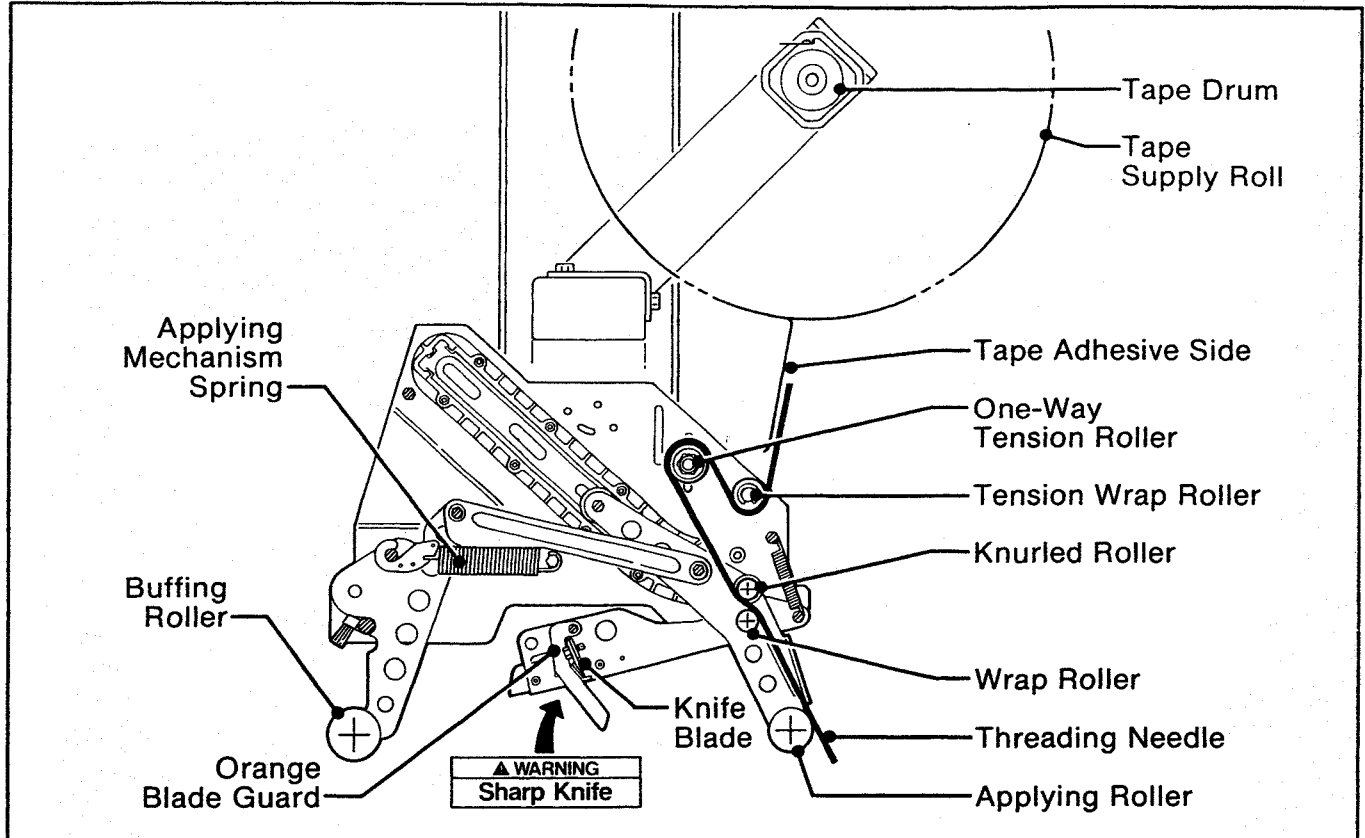

Figure 2-13 - Tape Threading Diagram - Upper Taping Head - Left Side View
1. BOTH THE UPPER AND LOWER TAPING HEADS UTILIZE EXTREMELY SHARP KNIFE BLADES. THE BLADES ARE LOCATED UNDER THE ORANGE BLADE GUARD WHICH HAS THE "WARNING - SHARP KNIFE" LABEL. BEFORE WORKING WITH THE TAPING HEADS OR ATTEMPTING TO LOAD THE TAPE, REFER TO FIGURES 2-13 AND 2-14 AND IDENTIFY THE BLADE LOCATION. KEEP HANDS OUT OF THESE AREAS EXCEPT AS NECESSARY TO SERVICE THE TAPING HEADS.
The applying mechanism spring, shown in figures 2-13 and 2-14, controls applying and buffing roller pressure on the box and returns the mechanism to the reset position. The spring pressure setting, as shown in figure 3-3A, is for normal operation but is adjustable.